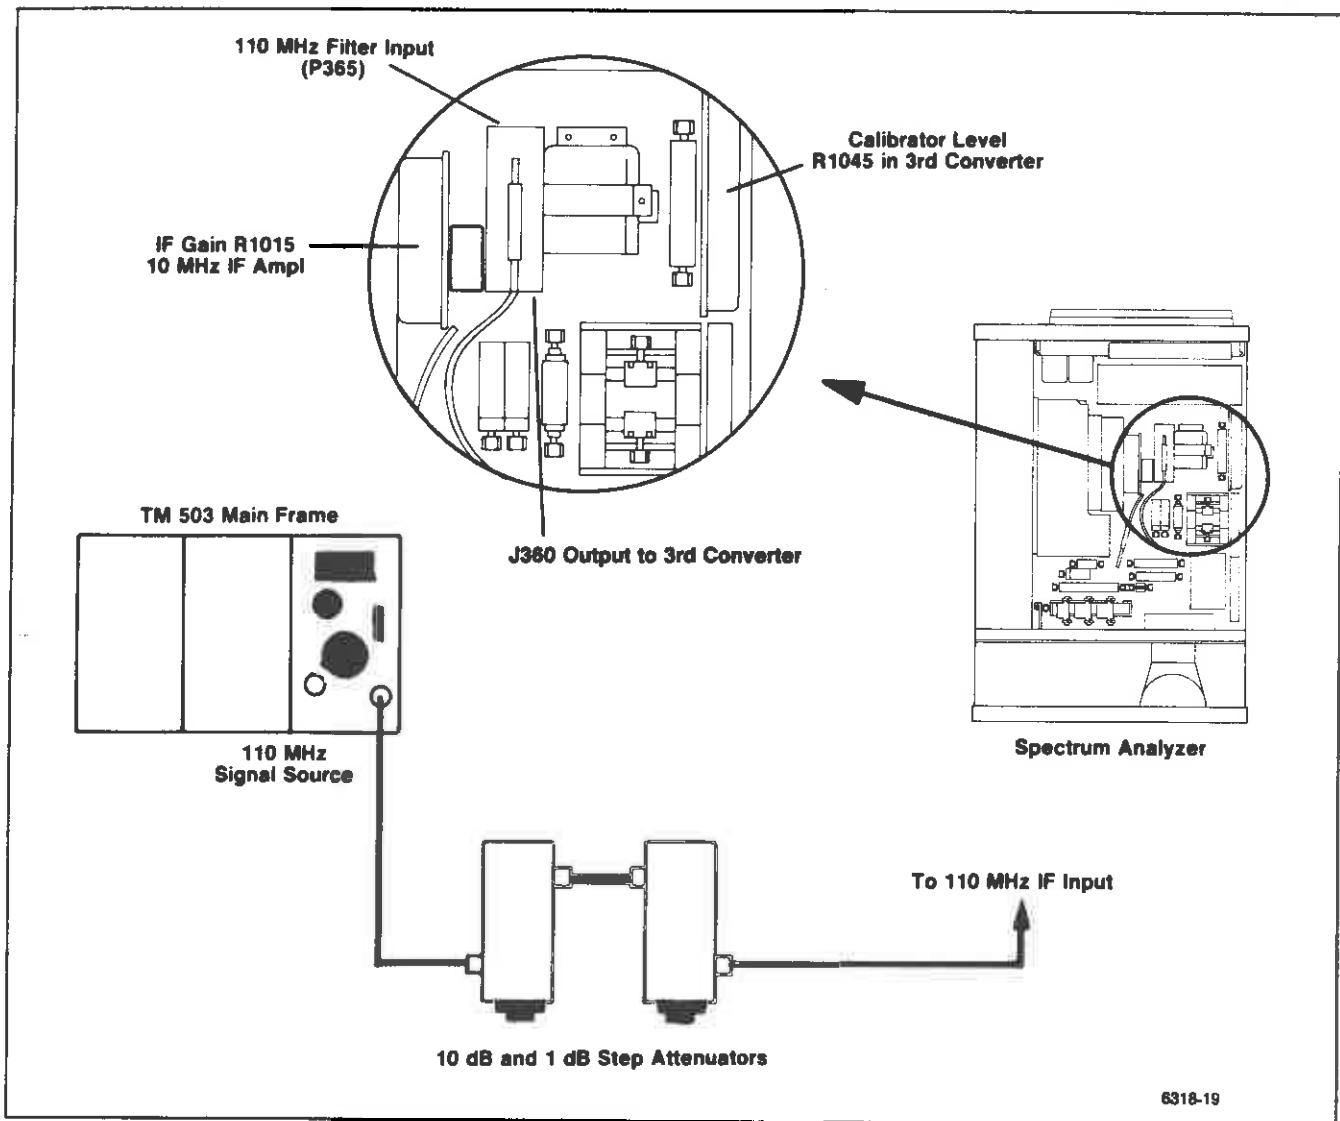

Figure 5-20. IF gain test setup, and adjustment and connector locations.
f. Adjust Cal Level R1041, in the 3rd converter (Figure 5-20) for no displacement between the CAL OUT signal and the reference (VIEW B and SAVE A displays).
a. Test equipment setup is shown in Figure 5-20. Set the RESOLUTION BANDWIDTH to 1 MHz, REF LEVEL to -20 dBm, and VERT DISPLAY to 2 dB/DIV. Apply a -25 dBm, 110 MHz signal, through step attenuators, to the input (J365) of the 110 MHz filter.
d. Set the step attenuators for 21 dB attenuation and apply the 110 MHz signal to the input (J321) of the 110 MHz IF amplifier (Figure 5-20).